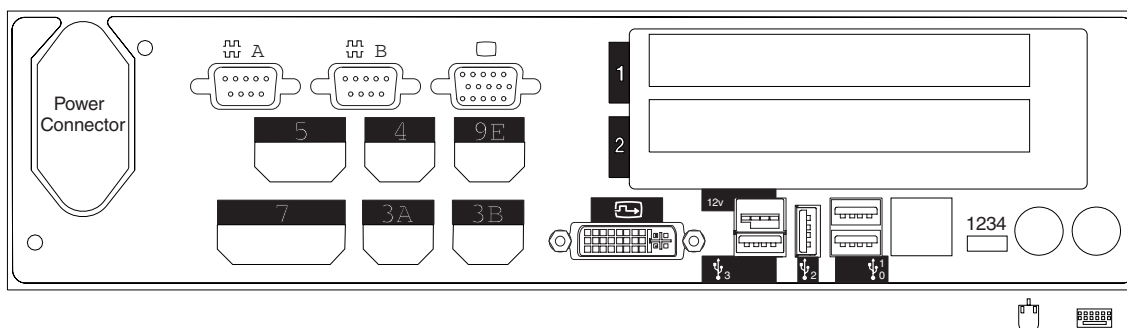
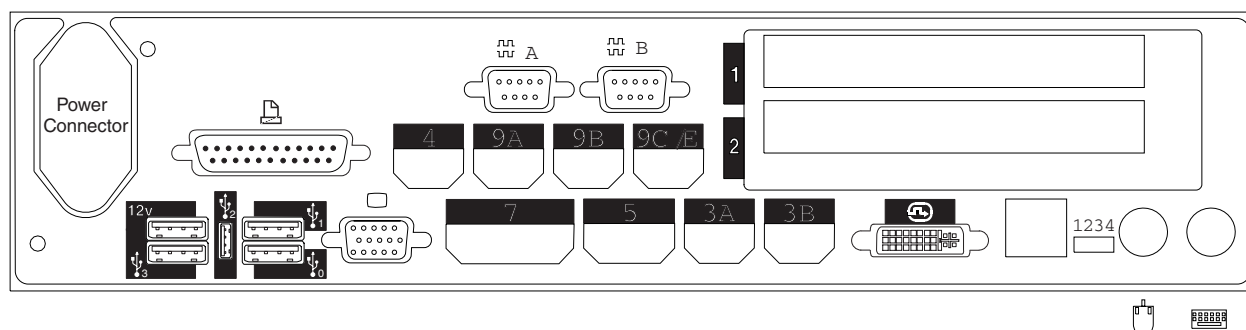

Figure 111. Rear of 4694-206 Point-of-Sale Terminal
Figure 112. Rear of 4694-246 Point-of-Sale Terminal
- Mark an X on Figure 111 and Figure 112 on page 281 to indicate the sockets in which POS devices are connected.